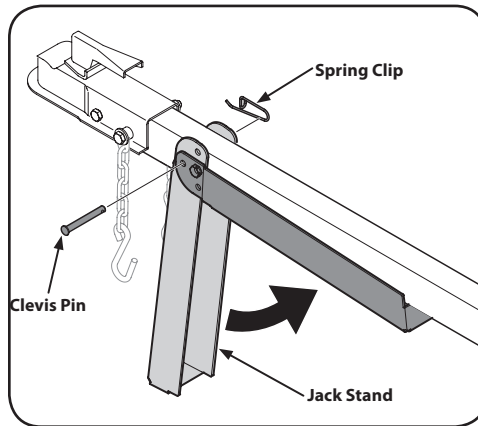

Figure 4-6
3. Support the tongue and pivot the jack stand up against the tongue. See Figure 4-6.
4. Secure with the spring clip and clevis pin previously removed. See Figure 4-6.